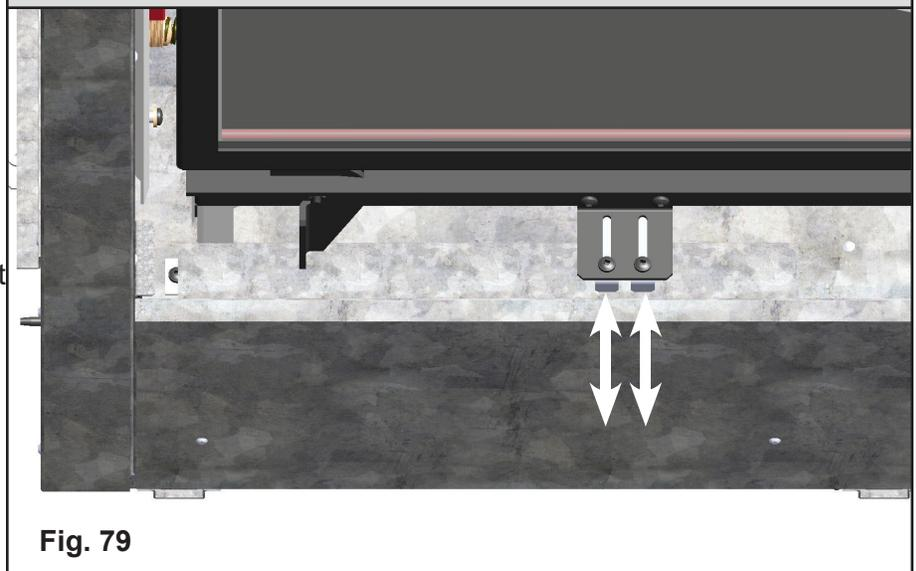

Fig. 79
3. There are two levers underneath the firebox as shown in (Fig. 79), loosen the screws on the levers for adjustment. The lever on the left controls the front / center burner flame appearance, the lever on the right controls the two rear burner flame appearances. Sliding either lever towards the front will close off the air mixing with the gas and will make the flame appear more yellow and tall. Sliding either lever towards the back will open up the shutter allowing more air to be mixed with the incoming gas; this will make the flames appear more blue and short. Typically natural gas flames will require the shutter to be more closed, while propane will be the opposite.